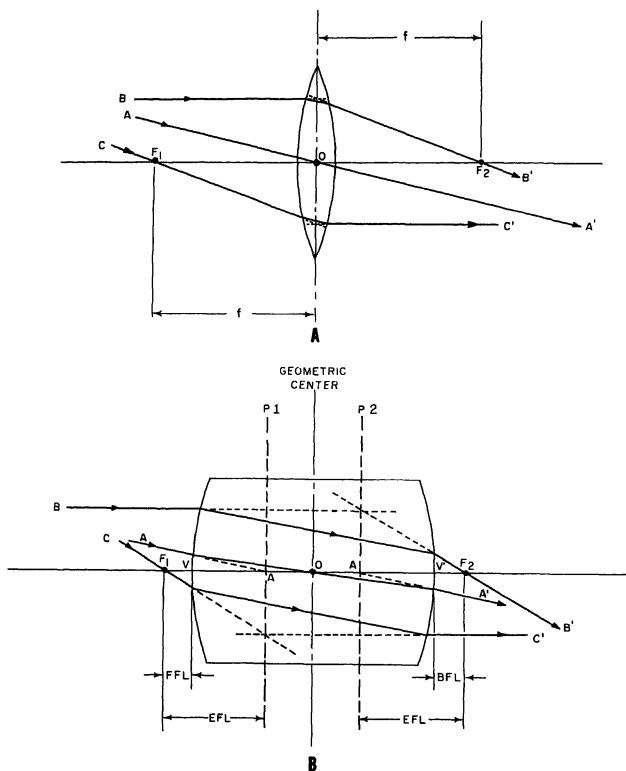
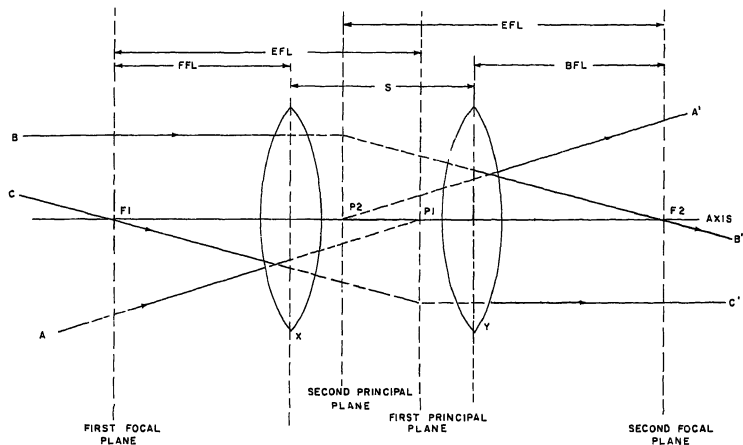
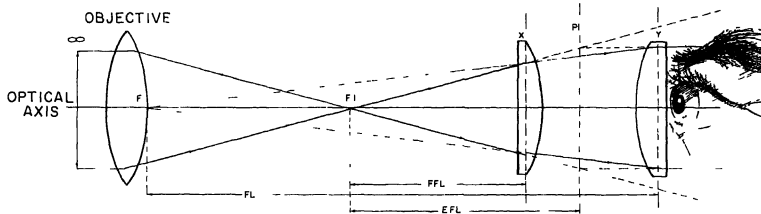

Figure 4-39.—A thin lens and a single thick lens.
Figure 4-41.—Symmetrical thin lenses used in combination as a thick lens.
Figure 4-42.—Two thin lenses used as an eyepiece.
Two equiconvex lenses are illustrated in figure 4-39. Both lenses have the same index of refraction and radius of curvature; their diameters are equal, but their thicknesses are unequal.
As you probably know, an A ray is any ray that passes through the optical center of a lens and emerges from the lens parallel to the incident ray without deviation. This rule applies to both thick and thin lenses. But notice the differences in the A rays that are passing through the two lenses in figure 4-39. In the thin lens in view A, the A ray is traveling toward the optical center and passes directly through without refraction or deviation.
For a ray of light to pass through a thick lens without deviation, it must travel along the optical axis, or travel as shown in view B of figure 4-39. When the ray strikes the lens, it is refracted according to the laws of refraction and passes through the optical center. Upon emerging from the second surface, the ray appears to have come from the second principal point ( $A'$ ) and is parallel to the incident ray, slightly offset (not deviated) from its original path.
Observe that the refraction of the B rays in the two lenses in figure 4-39 is the same, but the ray in the thicker lens travels a greater distance than the ray in the thinner lens. Observe also that the principal plane ( $P2$ ) of the B ray is now located to the right of the optical center of the thick lens.
Because the principal planes of a thin lens coincide, we measured the focal length as the distance from the surface of the lens to the principal focus. As shown in figure 4-39, the principal planes of a thick lens do not coincide. We must consider the focal length as three separate factors: (1) front focal length; (2) equivalent focal length; and (3) back focal length.
The distance measured from the principal focal point on the left to the vertex of the front surface is the front focal length ( $F1$  to  $V$  in fig. 4-39), abbreviated FFL.
The distance measured from a principal plane to its corresponding principal focal point to the equivalent focal length ( $P1$  to  $F1$  and  $P2$  to  $F2$  in fig. 4-39), abbreviated EFL.
The distance measured from the vertex of the back surface of the lens to the focal point on the right is the back focal length ( $V'$  to  $F2$  in fig. 4-39), abbreviated BFL.
If you arrange two thin lenses in proper position, they will perform as a single thick lens. Study figure 4-41, which illustrates two symmetrical thin lenses used as a thick lens. All the laws of refraction apply here as they did in figure 4-39. The only variation in the two systems is the way you measure focal distances. Because the two lenses are very thin, the principal planes of each lens lies in the geometrical center. For this reason we measure the focal distance for each lens from the individual principal planes. The equivalent focal length is measured from the principal plane of the combination.
Refer again to figures 4-39 and 4-41. Notice how the C ray is used to establish the first principal plane (P1) and the B ray establishes the second principal plane (P2). In figure 4-41, the first principal plane is to the right of the second principal plane. This is entirely correct and quite common in two lens combinations. Remember, when you measure EFL, measure from F1 to P1 or F2 to P2. The distances will be the same regardless of the difference between the two lenses.
Actual refraction of light rays passing through each lens in figure 4-41 is now shown. By now you should have a good idea of what happens at each lens surface. Refer to figure 4-42, which illustrates the use of two thin lenses in combination in making an eyepiece of a telescope. You will study eyepiece systems in detail in chapter 5, but the application is very appropriate at this point.